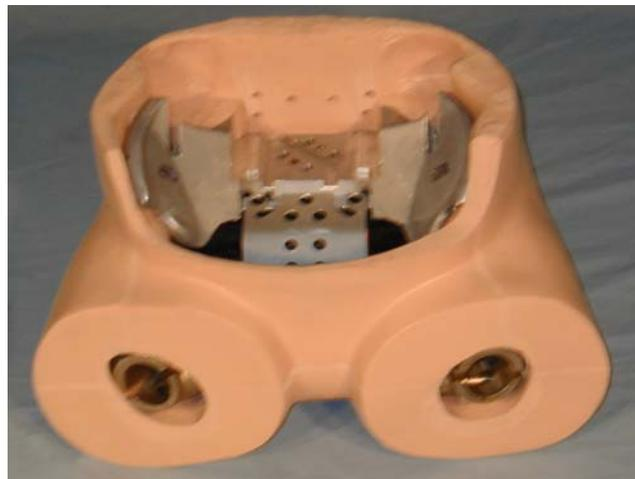

Figure 11.24- Pelvis assembly installed into skin
21. Install the completed mechanical pelvis assembly into the Molded Pelvis Skin (T1PLS000), as shown in **Figure 11.24**.